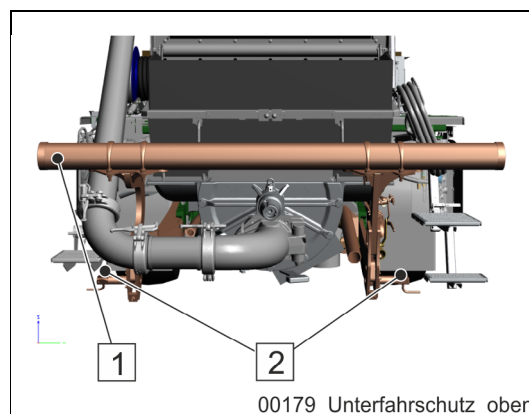

Fig. 270 Underride protection in operating position
The underride protection (1) is in the operating position (**Fig. 270**).